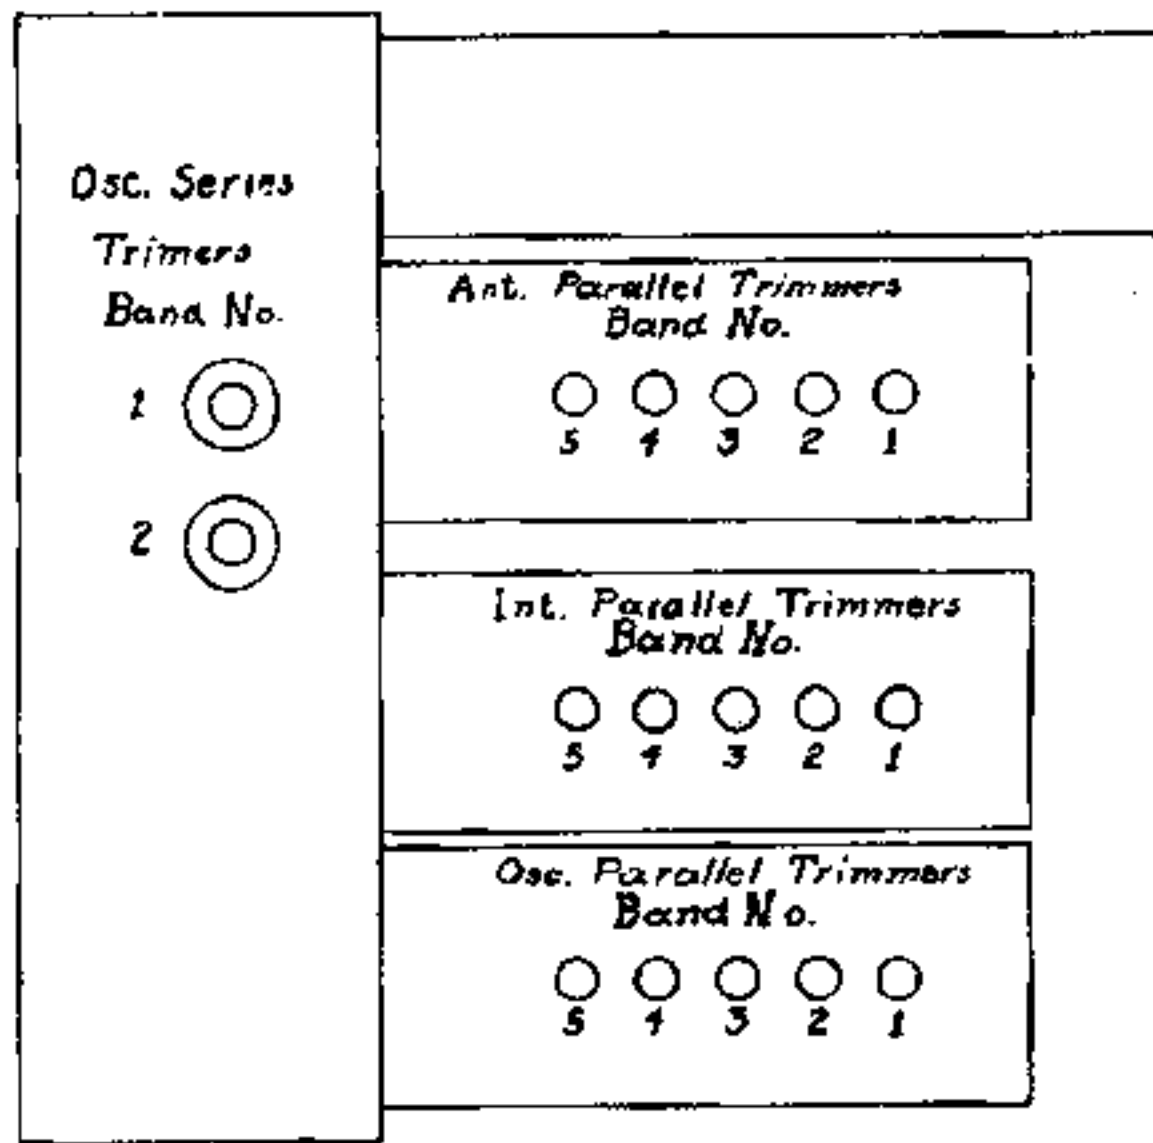

Fig. 3 End View
(a) Set test oscillator at 350 Kc. Tune station selector to 350 Kc. (35 on dial). Then adjust oscillator parallel trimmer condenser, Fig. 3, for maximum output.
(2) Tune station selector in the region of 15—Band No. 1—on dial for maximum reading on the output meter.
(3) Close the oscillator series trimmer condenser for Band No. 1, Fig. 3,  $\frac{1}{8}$  turn and re-tune station selector to 150 Kc. signal for maximum output, noting reading on output meter.
(4) If meter reads higher after operation (3) repeat the operation again and again until no further improvement in the reading of the output meter can be obtained. If meter reads lower after operation (3) open the oscillator series trimmer condenser  $\frac{1}{8}$  turn and re-tune station selector to 150 Kc. signal, noting reading on output meter as above and repeat as many times as necessary to obtain the highest meter reading. Do not reset the parallel trimmer condensers at this frequency.
(2) Tune station selector in the region of 60—Band No. 2—on dial for maximum reading on the output meter.
(3) Close the oscillator series trimmer condenser for Band No. 2, Fig. 3,  $\frac{1}{8}$  turn and re-tune station selector to 600 Kc. signal for maximum output, noting reading on output meter.
(4) If meter reads higher after operation (3) repeat the operation again and again until no further improvement in the reading of the output meter can be obtained. If meter reads lower after operation (3) open the oscillator series trimmer condenser  $\frac{1}{8}$  turn and re-tune station selector to 600 Kc. signal, noting reading on output meter as above and repeat as many times as necessary to obtain the highest meter reading. Do not reset the parallel trimmer condensers at this frequency.